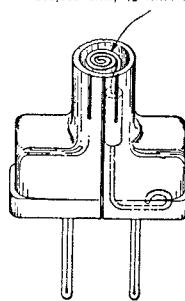

Fig. 2 — TCS871 Voltage Plug
2.03 A TCS871 Voltage Plug, as illustrated in Fig. 2 is available to provide a safe and convenient means for checking the operation of the Z Voltage Tester. When plugged into any standard 110- to 120-volt convenience outlet, it provides a source of voltage in series with a current limiting resistor. As illustrated, the resistor is connected to only one prong of the plug and this prong must be plugged into the "hot" side of the outlet.